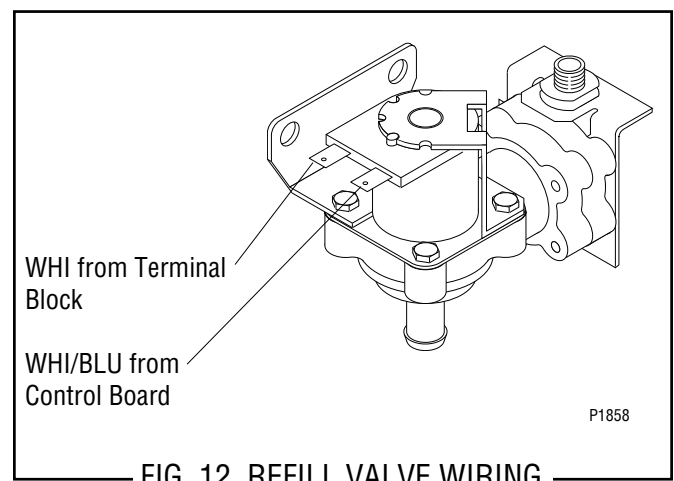

FIG. 12 REFILL VALVE WIRING
7. Refer to FIG. 12 when reconnecting the wires.